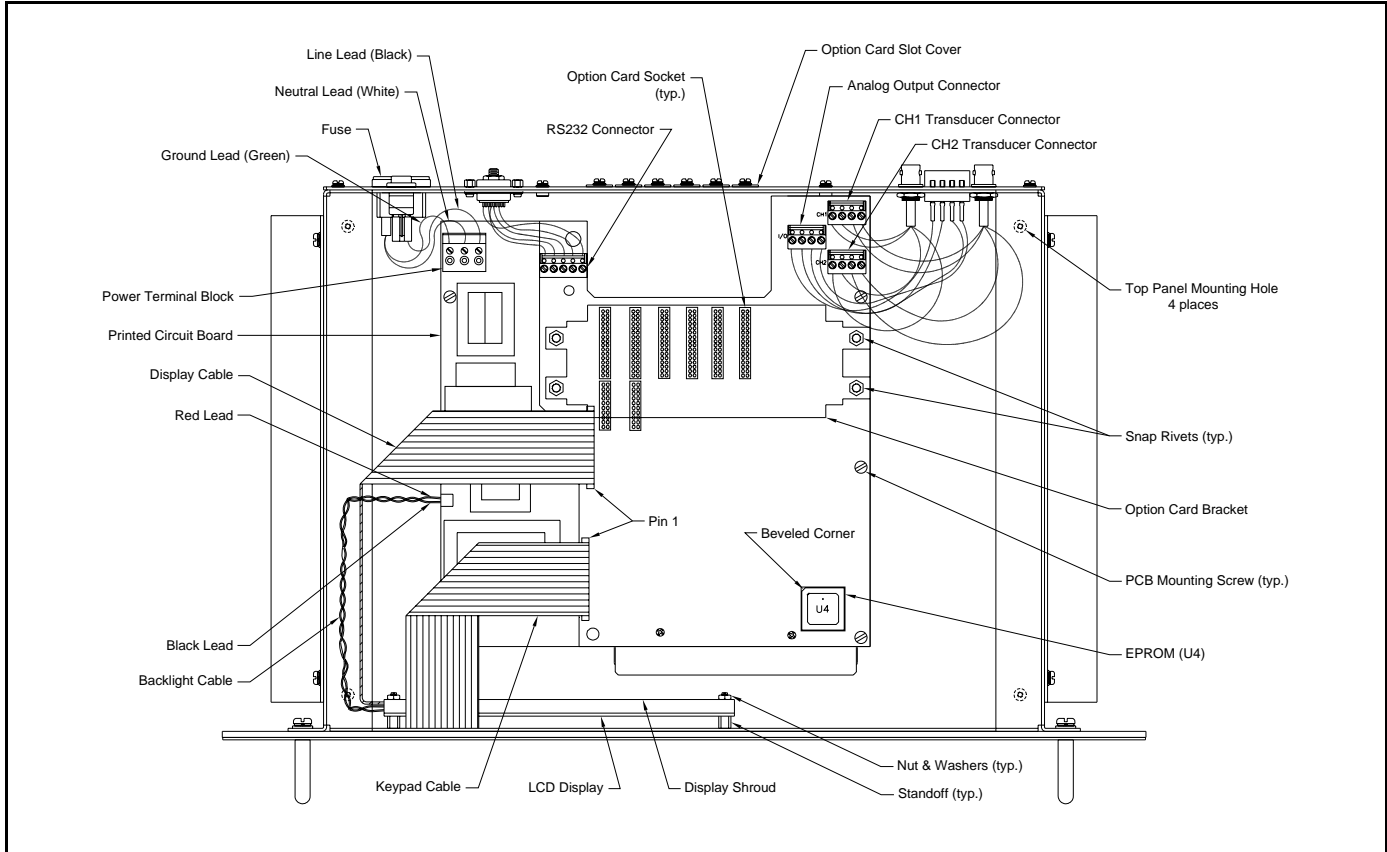

Figure B-2: Model GC868 Rack Mount Console Assembly - (ref. dwg # 705-849)
EPROM replacement may be required to replace a defective chip or to upgrade to a newer software version. To replace the EPROM, refer to Figure B-2 on page B-11 and complete the following steps:
To replace the LCD display, refer to Figure B-2 on page B-11 and complete the following steps:
Refer to Figure B-2 on page B-11 and complete the following steps:
5. Install the RS232, ANALOG OUT and TRANSDUCER connectors onto the printed circuit board at the locations indicated in Figure B-2 on page B-11. Make sure the marked pin #1 sides of the connectors face the right side (keypad side) of the enclosure.